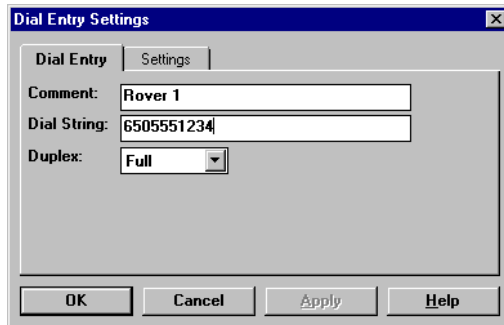

Figure 2.6: Dial Entry Settings Dialog Box - Dial Entry Tab
Use the **Dial Entry Settings** dialog box (Figure 2.6) to enter or edit a dial string (dialing number) with descriptive comments and select full-duplex (simultaneous send and receive) or half-duplex (send only) operation for the modem.
1. From the **Select Phone Number** tab in the **Remote Connection** dialog box, click the **Add** button to open the **Dial Entry Settings** dialog box (Figure 2.6).